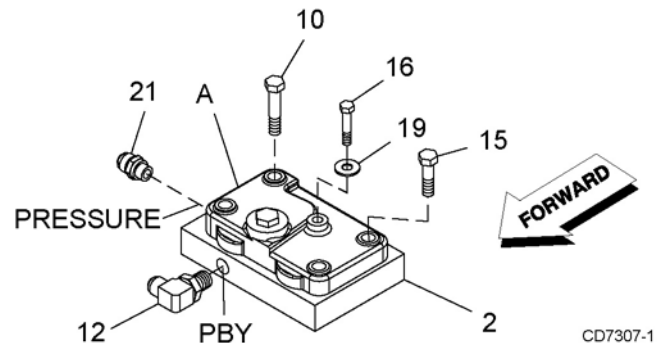

Figure 22. Adapter Plate Installed
2. Install elbow (12) and adapter (21) to adapter plate (2).
3. Remove accessory plate cover (A). Be careful not to disturb the O-rings that need to stay with the cover plate when it is removed.
4. Install O-rings to bottom of adapter plate (2). Use petroleum jelly to keep the O-rings in the counterbores.
7. Secure with hex head cap screws and flat washer as shown in Figure 22.